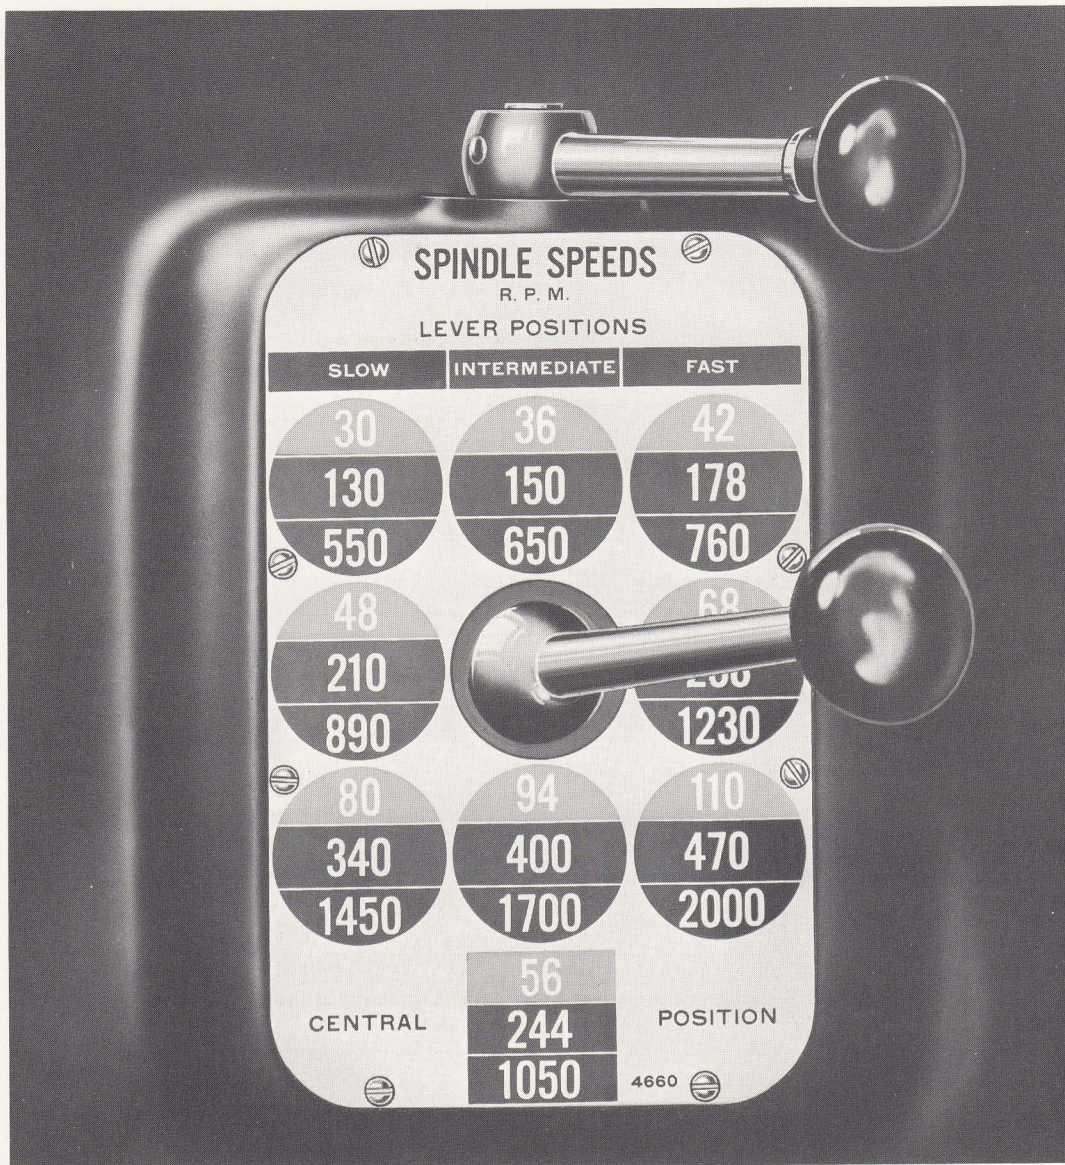

Figure No. 6—Direct Reading Speed Control, 27-Speed Head
**SPINDLE SPEED SELECTOR**—All speeds are procured through the action of two levers whose positions clearly and directly indicate on the speed plate the R. P. M. of spindle at any setting, Figure No. 6. The top lever has three positions, one for the slow range, indicated in blue, one for the intermediate range, indicated in red, and one for the fast range, indicated in black. The bottom lever has nine positions, each of which is designated on the speed plate by a circle which in turn contains three speed rates, indicated in corresponding colors. To select a desired speed, place the lower lever at the circle containing that rate, then place the upper lever in the blue, red or black position to correspond to the color indicated in the circle.